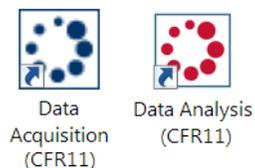

Figure B-24: Data Acquisition or Data Analysis Software Desktop Icons
1. Launch the Octet System Data Acquisition or Data Analysis software by double-clicking the respective desktop icon; see Figure B-24.